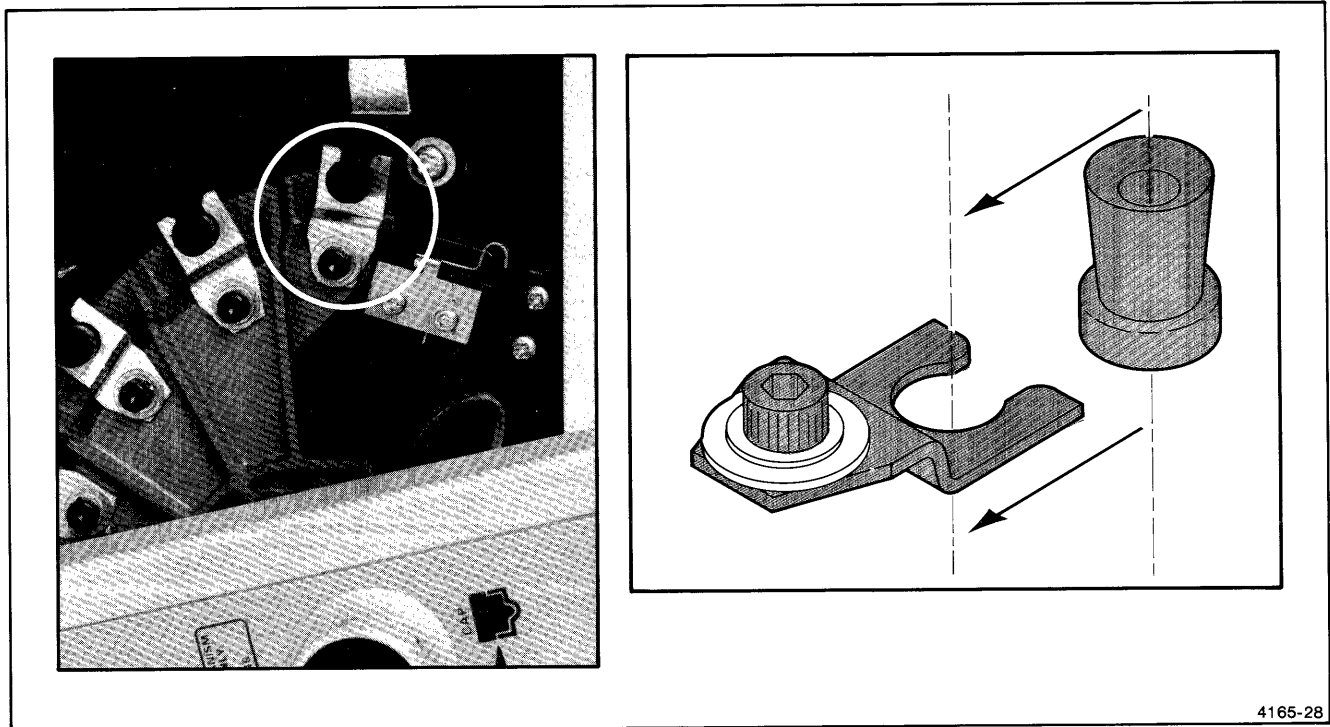

Figure 3-1. Replacing Rubber Pen Caps (Option 31 Only).
2. Use your fingers to slide the rubber pen caps out of their holders (see Figure 3-1).